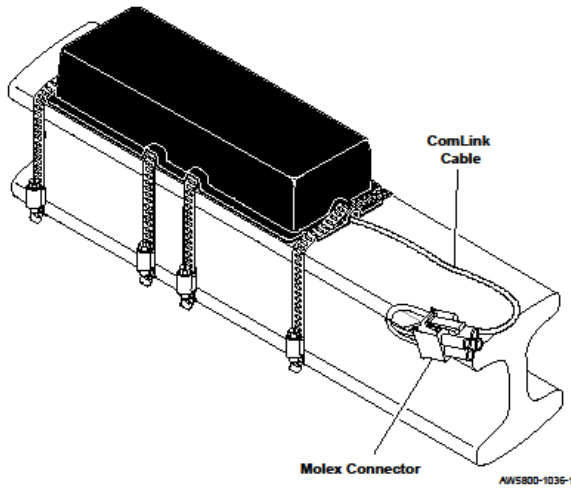

Figure 17. Cover with Sensor Extension Cable
4. Installation of the Steer Deflection Sensor is complete. Figure 17 shows covered sensor with sensor cable extending towards the QuickLoad Scale module.